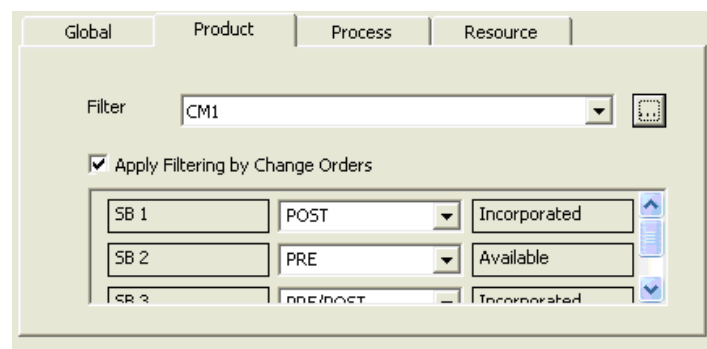
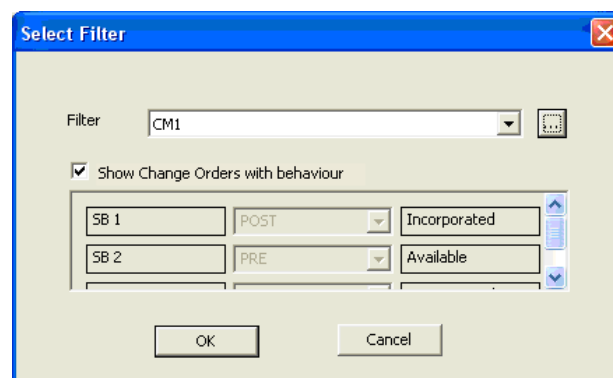

Figure 22: Filtering by Manufacturing Change Orders
Figure 23: Manufacturing Change Orders with Behaviors
When **Apply Filtering by Change Orders** option is checked, only the top level Manufacturing Change Orders (CO) that are related to the selected Calculation Model (CM) are considered and the MCO names along with it is the filtering mode and the relation that exists with the CM is displayed, *Please refer to the Figure 22 and Figure 23*. Move the scroll bars to access all the MCO's and their filtering behavior are shown, if in case there are more number of MCO's.
After selecting the check box and selecting filter mode (combo box), if you unchecks the **Apply Filtering by CO**, then all the MCO's and combo box are removed from the dialog, *Please refer to the Figure 22.*